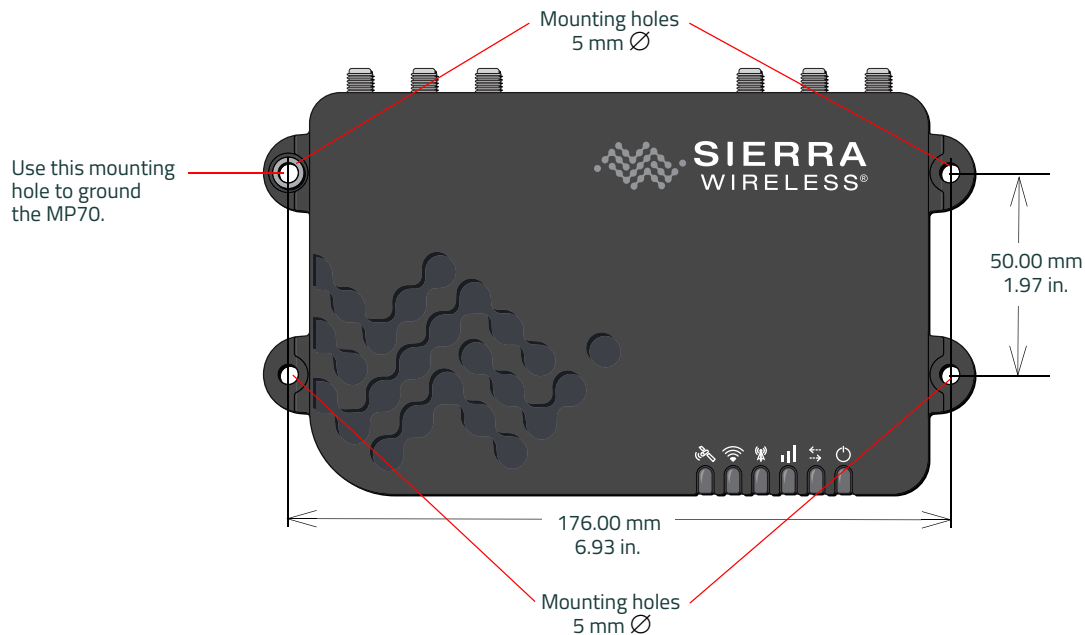

Figure 2-2: Mounting and Grounding the MP70
Semtech strongly recommends that you always ground the chassis using the unpainted mounting hole shown in Figure 2-2.
The MP70 has 4 mounting holes, as shown in Figure 2-2. Use the mounting screws that came with the MP70 to secure it in place.
- Connect one end of a short 18 AWG or larger gauge wire to the unpainted, upper right mounting hole (see Figure 2-2) and connect the other end to the vehicle chassis.